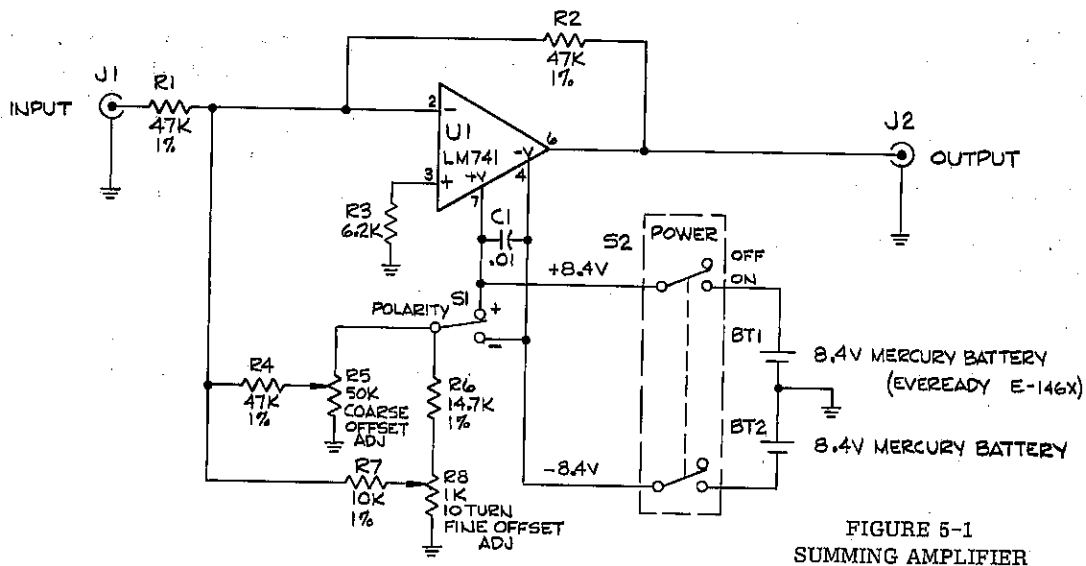

FIGURE 5-1
i. A Schematic Diagram of a Summing Amplifier used in certain counter tests, is shown in Figure 5-1. This unit may be constructed by the user, or may be purchased directly from EIP (Part Number 2010050).
* See Figure 5-1.